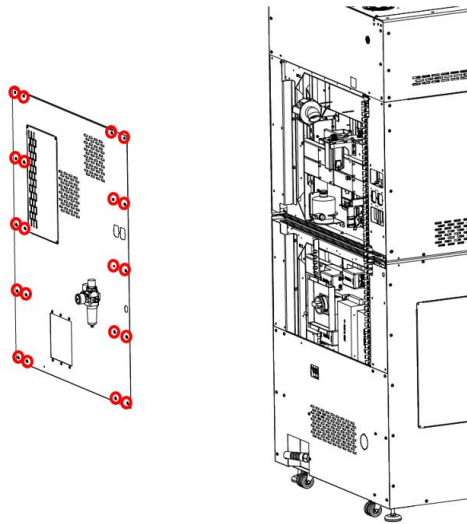

Fig. 111 Rear printer cover
12. Remove the rear centre cover by unscrewing the 20 fixing screws (fig. 111). Disconnect the earth point plug that connects the cover to the printer housing.